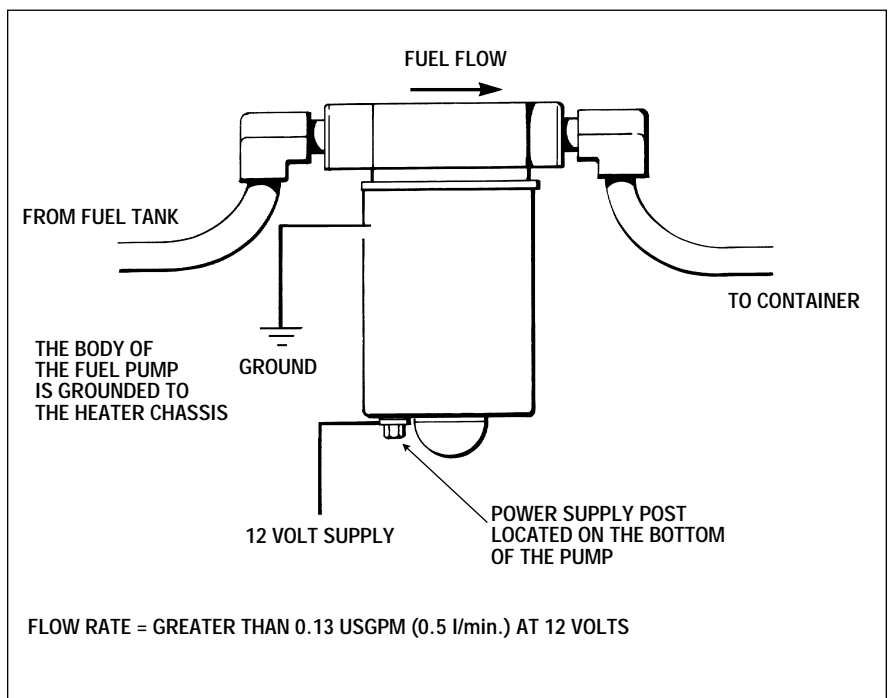

Figure 5-6 Fuel Pump Test
- b) For defective pump. (See Test Procedure Figure 5-6)
- c) For defective pump. (See Test Procedure Figure 5-6)
- c) The voltage at the fuel pump positive (+) terminal, nominally 12 or 24 volts. Power will be present ONLY during Start or Full Output mode. (See Figure 5-6)
The fuel pump can be operated remotely by disconnecting the PROHEAT power supply and connecting the pump directly to 12 volts. (See Figure 5-6)